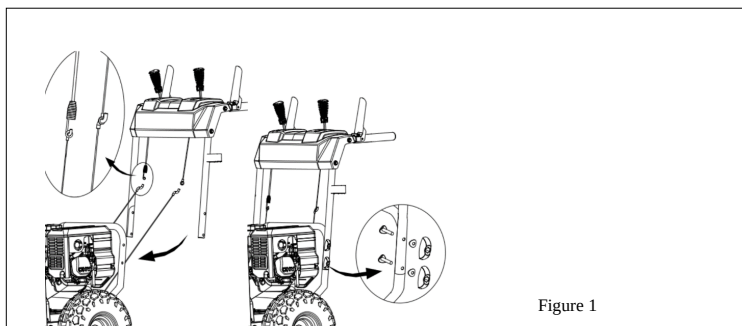

Figure 1
3. When attaching Assembly Hardware, make sure ALL cables are underneath the Frame (Upper & Lower) Handles after installation as indicated in Figure 1. **VERY IMPORTANT!!!*****
5. Verify that the connection for the Upper & Lower Drive/Auger Cables is accurate. (See Figure 1)